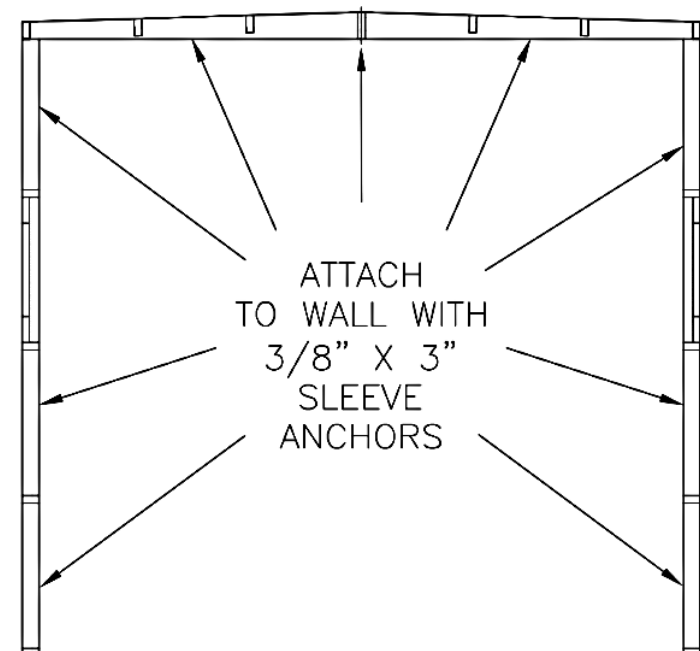

FIG. 9B
- Drill holes through remaining Mounting Brackets (Figure 9b).